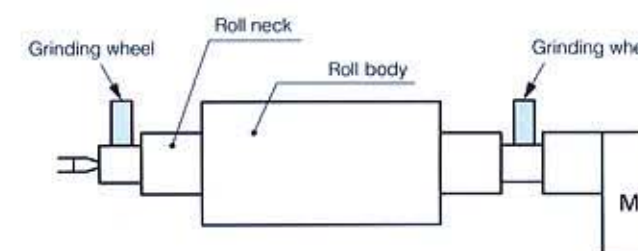

Fig. 3.30
- Carry out grinding of the step (roll grinding support), which is a reference surface for the roll. After grinding, check the roundness, run-out, and cylindricity. (**Fig. 3.30**)